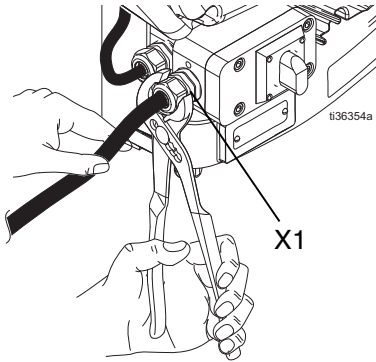

FIG. 5: Junction Box Screws and Strain Relief Cord Grip
- Replace junction box screws and washers removed in step 2 and tighten cord grip (X1) to securely hold power cord in junction box (Y). See FIG. 5.